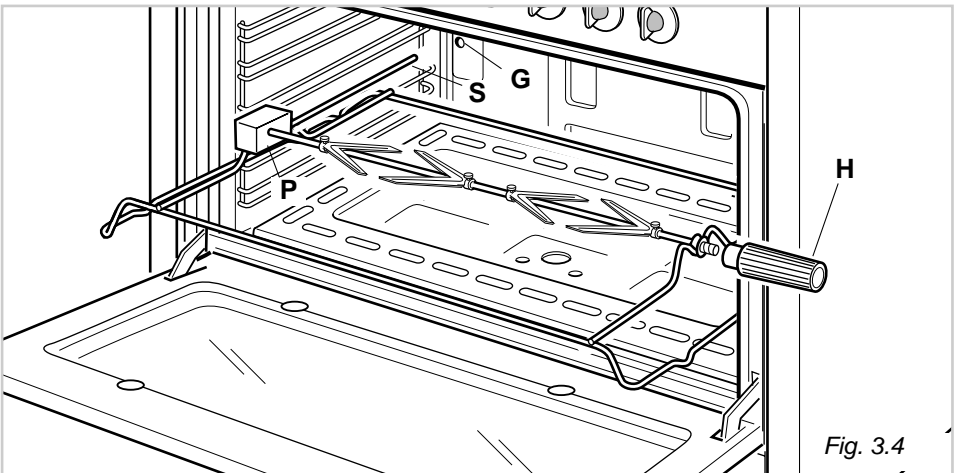

Fig. 3.4
- Insert the rod into the side gear opening “P” (fig. 3.4)